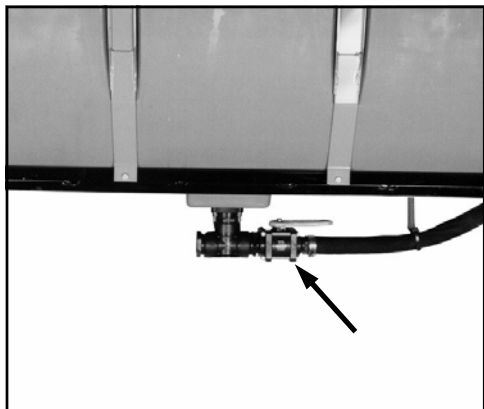
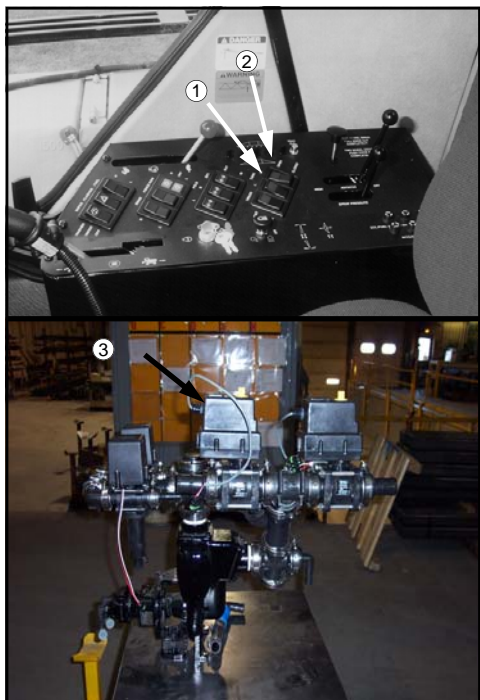

FIG 5.32
FIG 5.33
To shutoff either or both solution tank sumps, manually close either or both 1½” ball valve(s) located under each solution tank (fig. 5.32). Your sprayer may be equipped with optional 1½” electric tank shutoff valves (fig. 5.33, item 3).
To operate the electric tank shutoff valves, locate the solution tank switches in the console. To open or close the left solution tank, depress the “OPEN” or “CLOSED” side of the left switch (fig. 5.33, item 1). To open or close the right solution tank, depress the “OPEN” or “CLOSED” side of the right switch (fig. 5.33, item 2).